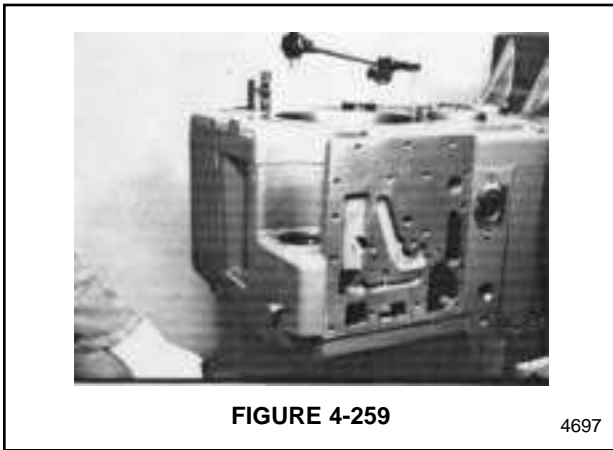

FIGURE 4-259
12. Install a dial indicator and check the end play on the KR/K2 shaft. See Figure 4-259. End play should be within the range of .10 – .30 mm (.0039 – .0118"). To keep end play within the range, use a shim.